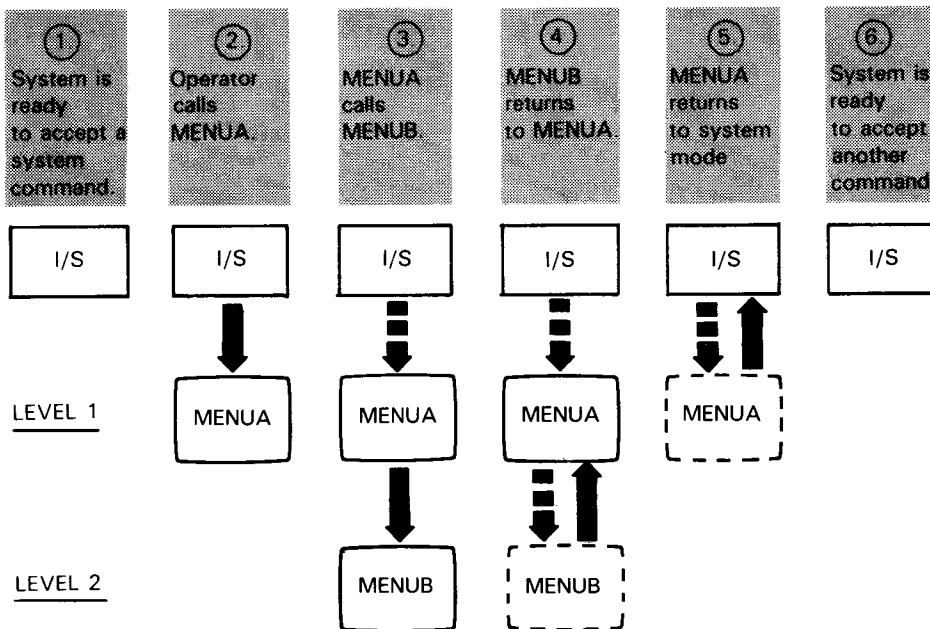
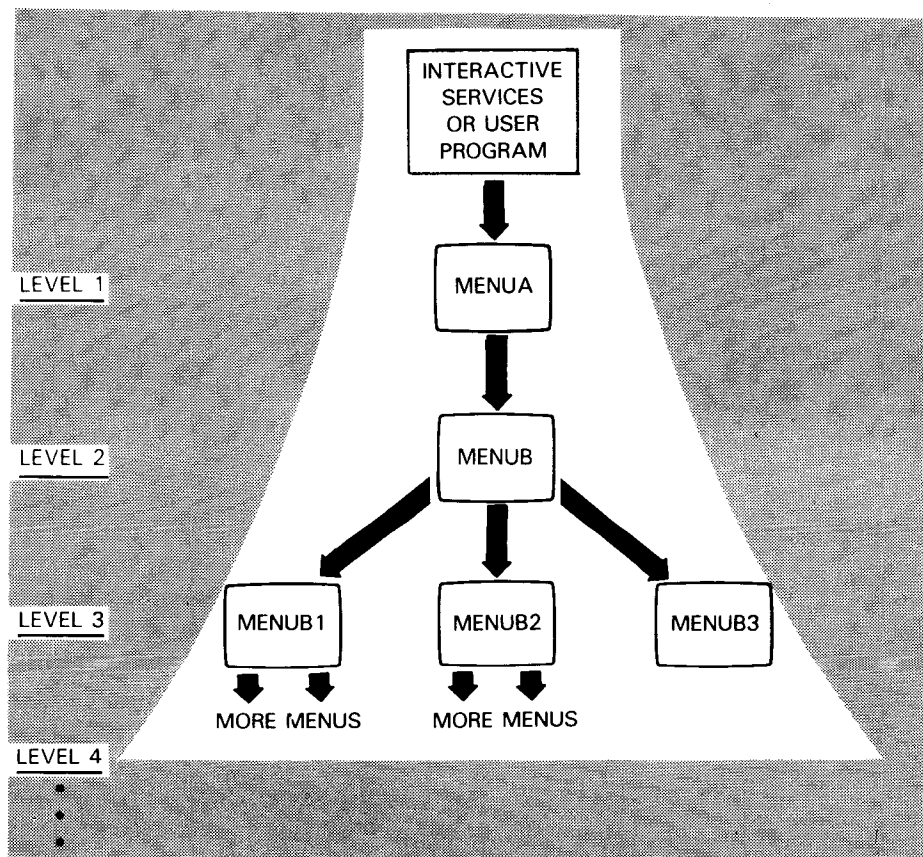

Figure 2-3. Chaining Menus Together
Figure 2-4. A Tree of Menus
We've already said that the menu processor can handle menus from several different workstations at once. We now see that the menu processor can also handle more than one menu for any individual workstation. Of course, only one menu screen at a time can appear on the workstation. But a menu can call another menu, which then overlays it. From this, we can imagine building a *chain* of menus, one calling another, each occupying a menu *level* (Figure 2-3).
Assume that menus MENUA and MENUB reside in system library file \$Y\$FMT. Figure 2-3 shows in six steps how you can create and use menu chains. Use these steps, numbered with the circled keys ① to ⑥, as you read through the following:
- ① The operator puts his workstation in system mode, preparing to call a menu.
- ② The operator calls MENUA by keying in MENU MENUA. MENUA now appears on his screen. From now until ⑤, the menu processor has control of the workstation.
- ③ MENUA calls MENUB. The MENUB screen now overlays MENUA, but MENUA remains in the chain, thanks to the menu processor. This makes step ④ possible.
- ④ MENUB returns to MENUA. The MENUA screen now overlays the MENUB screen, and MENUB disappears from the menu chain (dotted MENUB box).
- ⑤ **MENUA** returns to interactive services since it was a system command (**MENU**) that called **MENUA** in the first place. The **MENUA** screen disappears.
- ⑥ By putting the workstation in system mode, the operator can now enter other system commands.
The idea of menu levels becomes important when you establish menu chains. We established menu levels implicitly in Figure 2-3 by drawing **MENUA** in steps 2 to 5 always at the same level; likewise **MENUB** in steps 3 and 4. In the left margin of Figure 2-3, we make levels more explicit by naming them level 1 and level 2. Whenever one menu calls another, we'll show the connection by drawing the called menu below the calling menu. Sometimes we'll show level numbers too. We'll assign the first menu called from a user program or the **MENU** command to level 1, a menu called from level 1 to level 2, a menu called from level 2 to level 3, and so on, as necessary. There is no limit to the number of levels a menu chain may have.
On the way up or down the chain, each menu may provide the user with other options. In fact, a menu may be programmed to call any of several other menus, depending on the choice made. This lets you expand a menu chain into a menu tree, such as the one in Figure 2-4.
We base Figure 2-4 on the 2-level menu chain in Figure 2-3. Here, we expand the chain to three levels by showing that MENUB can call any one of three other menus MENUB1, MENUB2, or MENUB3. Whichever is called, that menu occupies level 3. It may later return to MENUB just as MENUB returns to MENUA in Figure 2-3. Or it may in turn call a level 4 menu from among a number of menus available.
Before moving on to action tables, we should make one more point about menu chains: you don't create a menu explicitly as, say, a level 2 menu. It only becomes one because of the sequence of menus that have gone before it on the workstation. The same menu may be a level 1 menu in one chain and a level 3 menu in another chain. It's always a good idea to draw a menu chain first, like the ones in Figures 2-3 and 2-4, before creating any of its menus.